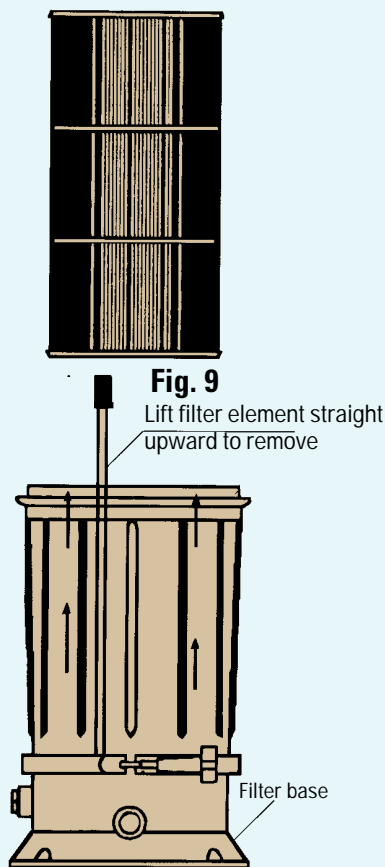

Fig. 9
11. Lift element out of tank body (See Figure 9). Do not drop filter element. Place element in clean area where it can be hosed down.